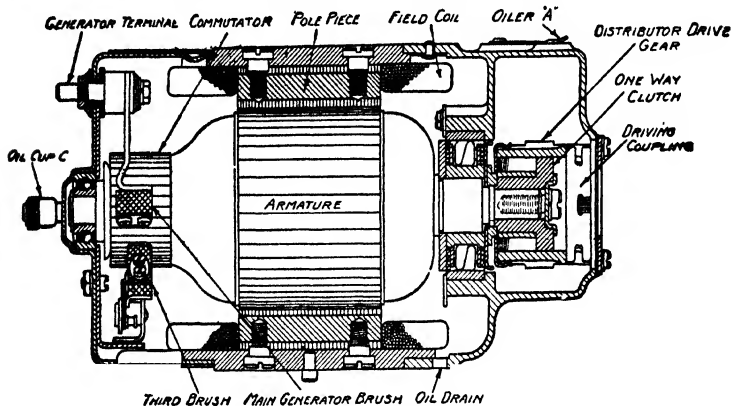
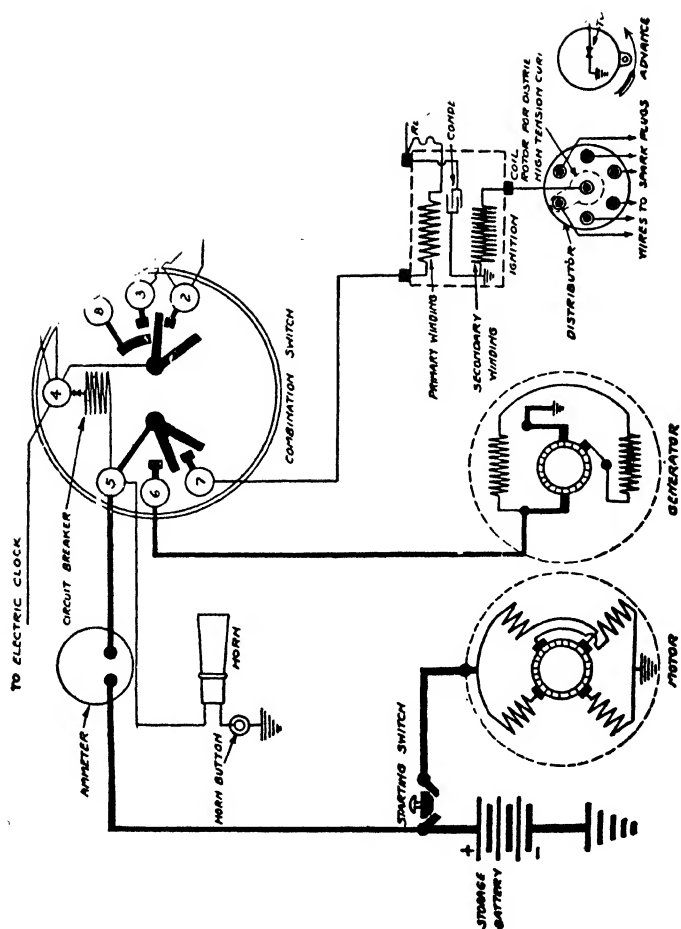

Fig. 251. Generator of Delco Two-Unit System
Fig. 255. Complete Wiring Diagram of Delco System on 1917 and 1918 Westcott Cars
**Generator.** This generator is a bipolar machine of the shunt-wound type, a section of which is illustrated in Fig. 251. As installed on the Westcott (1917)—a wiring diagram of this installation being illustrated in Fig. 255—the generator is driven from the water-pump shaft through a one-way clutch, that is, a type that will drive when turned in one direction but will run free when driven in the opposite direction. This permits the generator armature to revolve when the engine is not running, thus preventing a heavy current discharging through the generator from the battery when the ignition switch is turned on while the engine is idle. This is due to the fact that the
**Wiring Diagram.** By comparing this wiring diagram, Fig. 255 with Fig. 250, which shows the single-unit Delco system as installed on a Buick machine, a clearer idea of the difference in the requirements of the single- and two-unit sets, where their circuits are concerned, will be obtained.